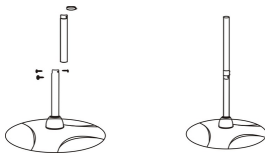

Fig. 3
5. Connect the middle and lower tubes using the included 5x6mm screws. Attach the power cord retaining button to the middle tube. This will also secure the top tube to the middle tube (figure 3).